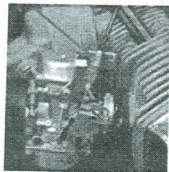

Fig 19b
c) For carburetors: the free travel of cables of not more than 2...3 mm, simultaneous start of their move and throttles lift at the same height at any position of the throttle handle (Fig 19b). The free travel and synchronism of throttle lift are adjusted by screwing in or out the stops located in the covers of carburetors